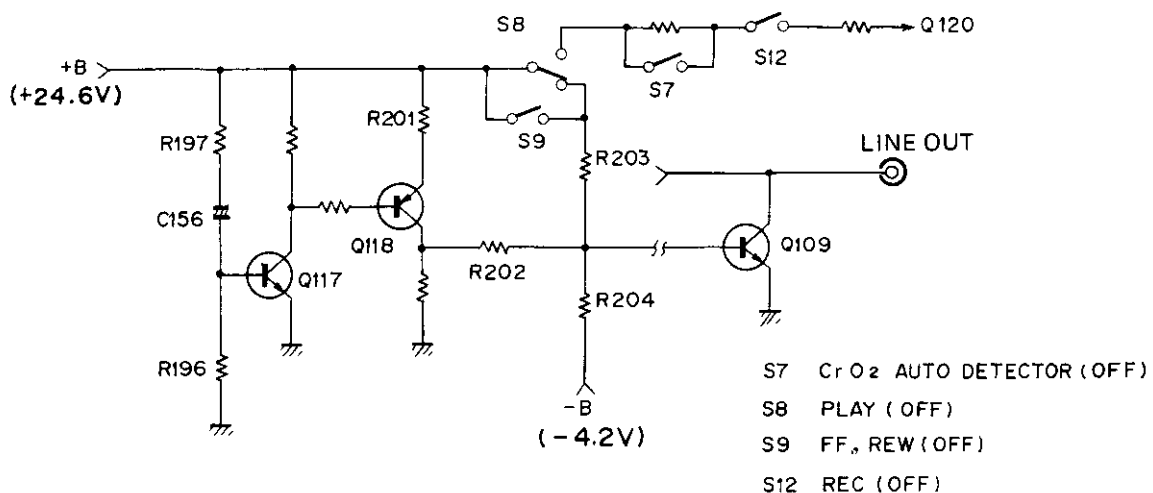

Fig. 4
7.2 MUTING CIRCUIT (Fig. 4)
7.3 MUTING RELEASE (Figs. 4, 5)